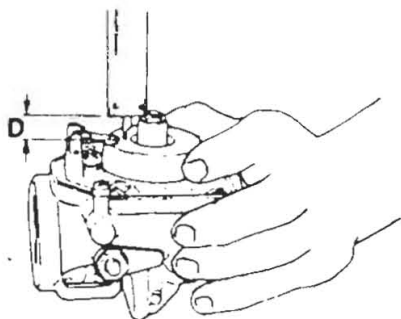

Fig. SZ11-2—Distance (D) for correct float level should be 10-12 mm (0.394-0.472 in.).
To check float level, remove float bowl (14) and invert carburetor body (1). Distance (D—Fig. SZ11-2) between main jet and bottom of float should be 10-12 mm ($\frac{25}{64}$ to $\frac{15}{32}$ in.). Bend float tang to adjust float level.